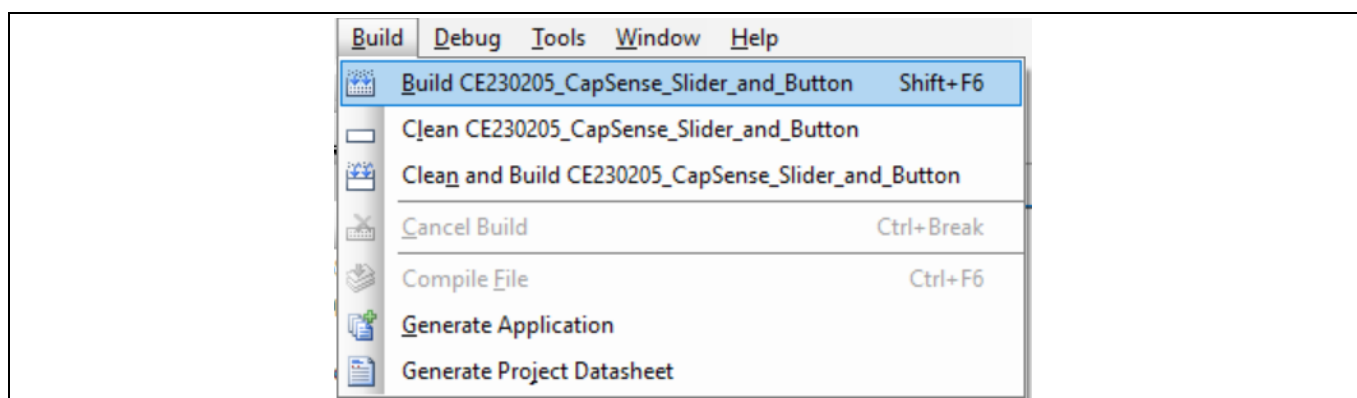

Figure 14 Build Code Example from PSoC Creator
4. Build the code example by choosing **Build > Build <Project Name>**, as shown in Figure 14. A .hex file is generated after a successful build process.